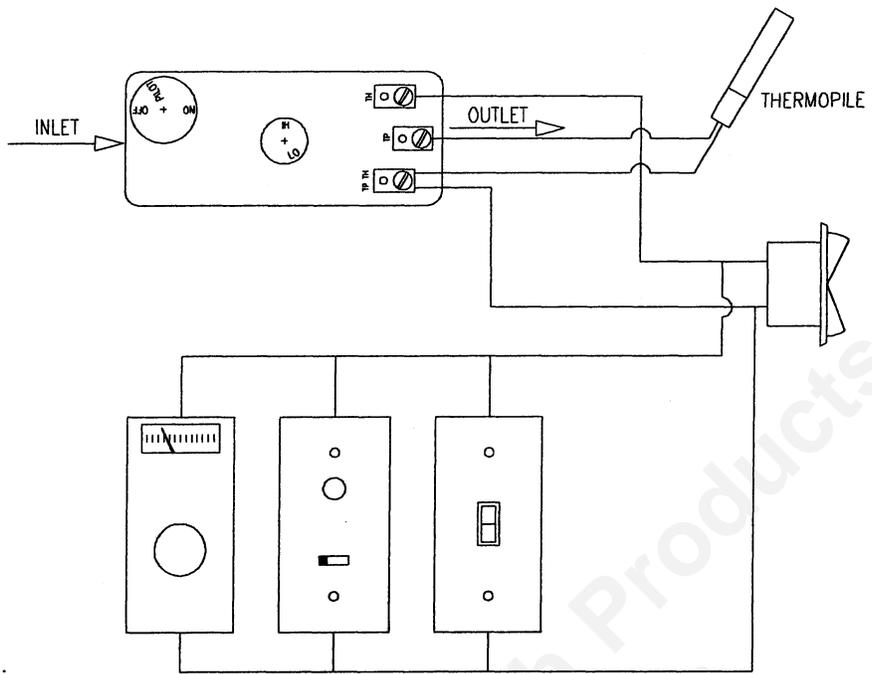

Figure 10a
2. While the heater is being installed and the gas line is connected, attach the thermostat wire to the two blue 1/4" (6.4mm) insulated female spade connector wires. If the heater is being installed in a masonry fireplace, connect the blue wires from the valve to the two wires running from the switch on the right side faceplate brass. This switch may be connected in parallel with a thermostat, wall switch, faceplate switch, or remote control as shown in Figures 10a & 10b.